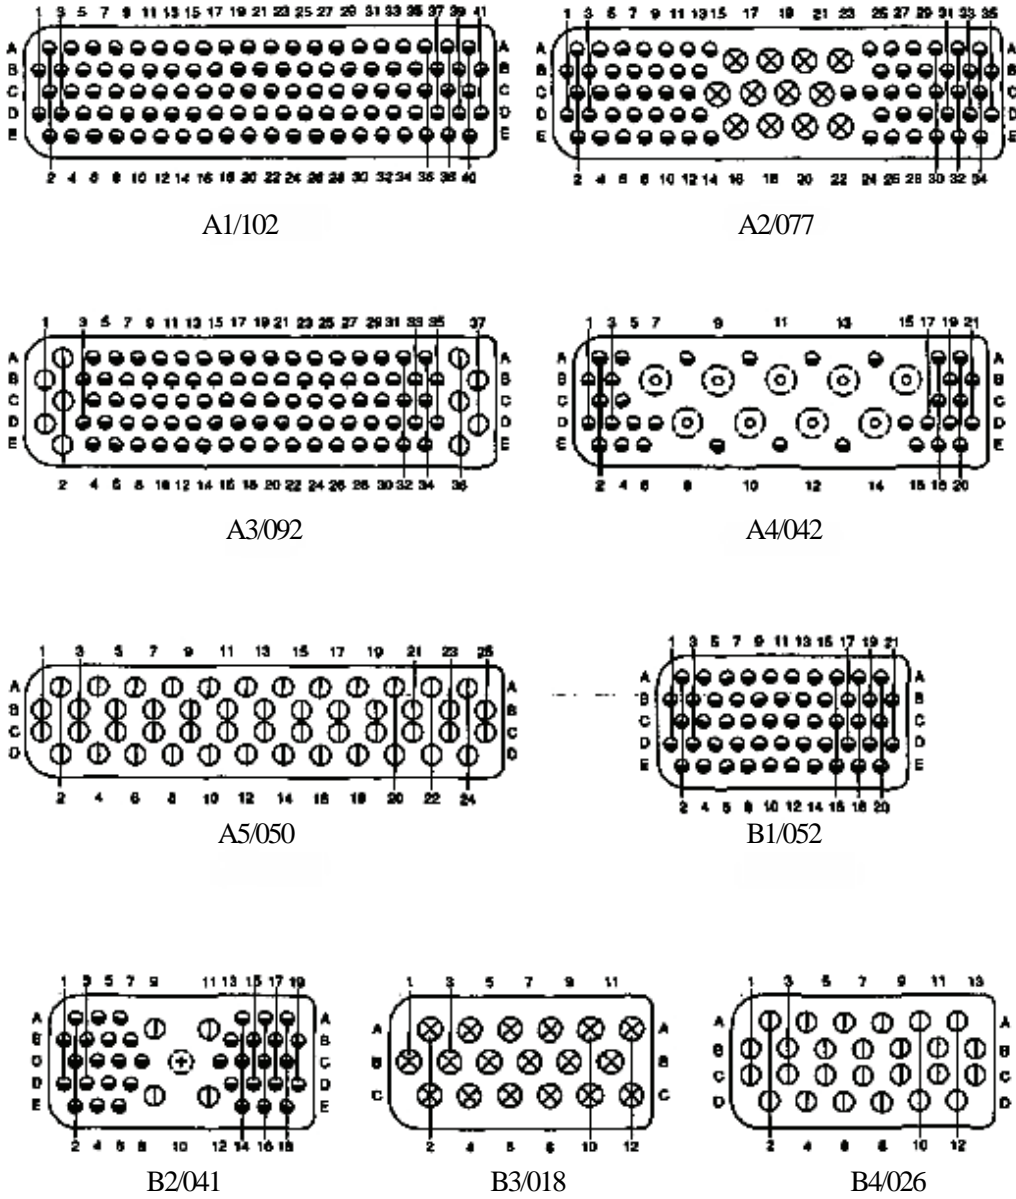

Figure 3. MIL-DTL-26518 Insert Configurations
25. **INSERT CONFIGURATION.** The insert configuration is the manner in which the contacts are placed within the connector insert. All arrangements identified in Table 2 are illustrated (Figure 3).